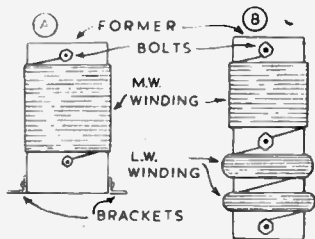

Fig. 1—Coils for crystal sets
The simplest type of crystal set coil is shown at (A) in Fig. 1, and consists of a single winding of insulated wire on a tube. Ready-made bakelite or paxolin tubes can be bought, or a tube can be made by wrapping glued brown paper or card round a suitable object, slipping off, and allowing to dry. Some household commodities will also be found to be in cardboard containers, and these can be used. With a card or paper tube insulation will be improved if the former is varnished before use.